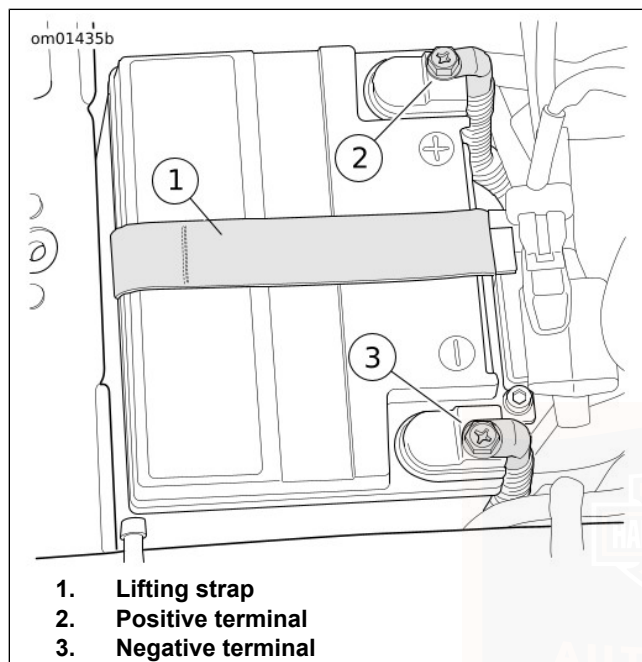

Figure 109. Battery Compartment
10. See Figure 109. Disconnect both battery terminal screws (2, 3), negative battery terminal first.
11. Pull up battery lifting strap (1) to raise battery. When battery is extracted far enough to get a good grip, grasp battery and remove completely.
3. See Figure 109. Place the battery into the battery tray, terminal side forward.